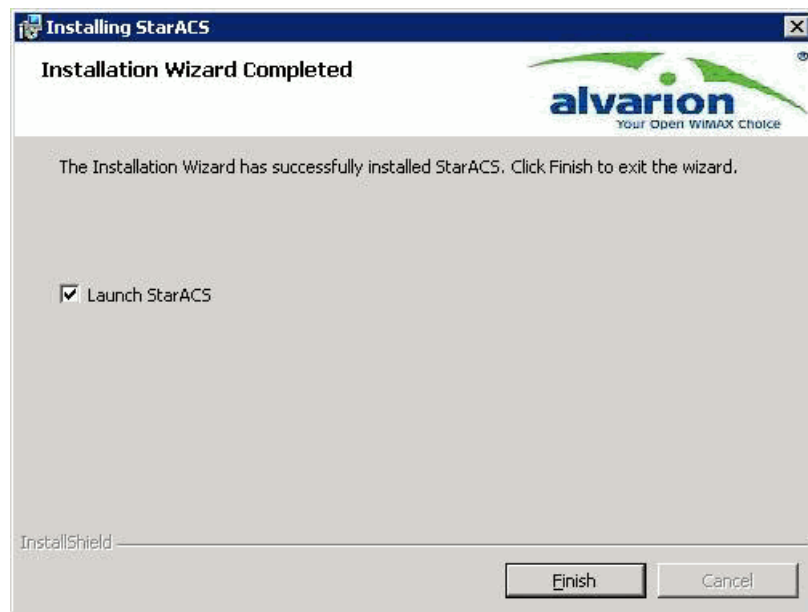

Figure 7: Installation Wizard Completed
- 8 Installation Wizard Completed – the wizard has successfully installed the application. To exit the wizard without running the application, uncheck the Launch StarACS checkbox and click Finish (Figure 7).